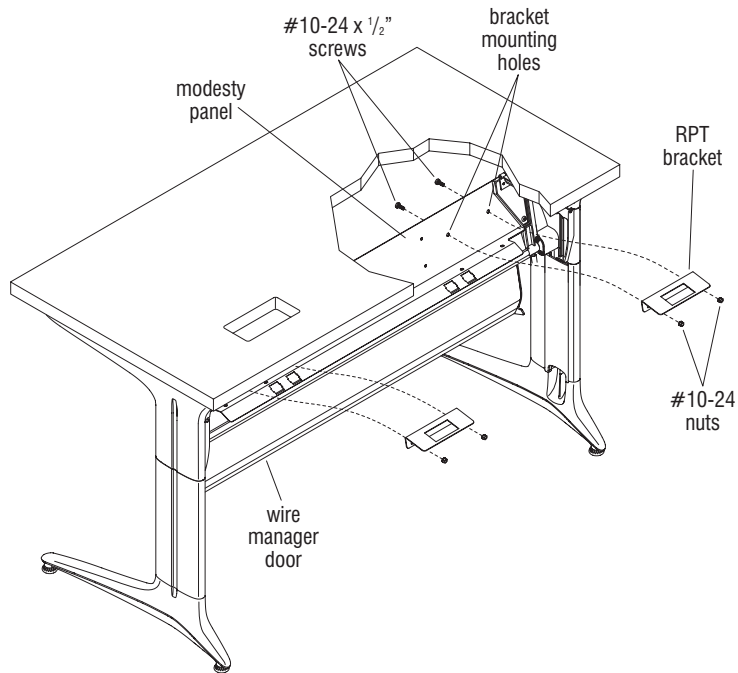

Figure 4
1. Open the wire manager door and swing it down past the leg until it clears the leg door (Figure 4).
2. Locate the two RPT bracket mounting hole locations, one pair at each end of the beam as illustrated (Figure 4).
3. Position the RPT bracket up to the modesty panel as illustrated and use the #10-24 screws and nuts provided to secure the bracket to the panel (Figure 4).